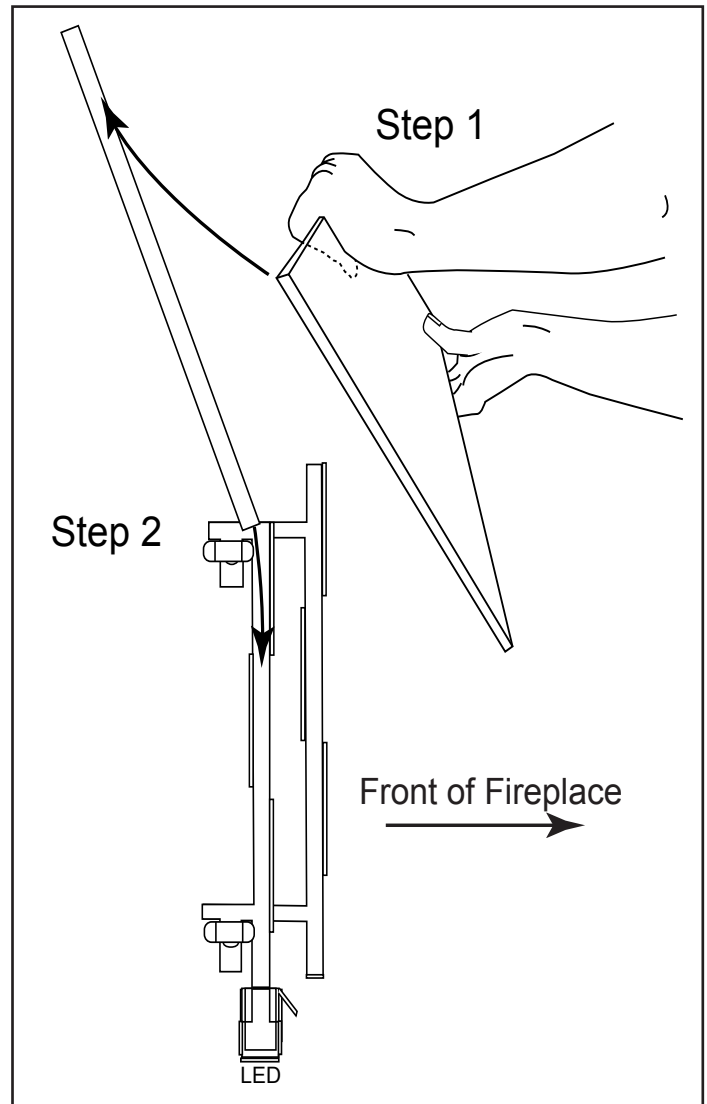

Fig. 34 Installing windshield into clips (glass holders).
- Using gloves carefully lift one glass panel, into the fireplace opening, over top of the glass clips, and slide it down into the metal retainer clip, supporting the glass at the top and bottom as you handle it. See Fig. 34
- Install the second glass pane in the same manner as described in Fig. 34.
**“WARNING: Both glass panels must be installed when the fireplace is in operation”.** Note: All four (4) glass panels must be installed on see through fireplaces.